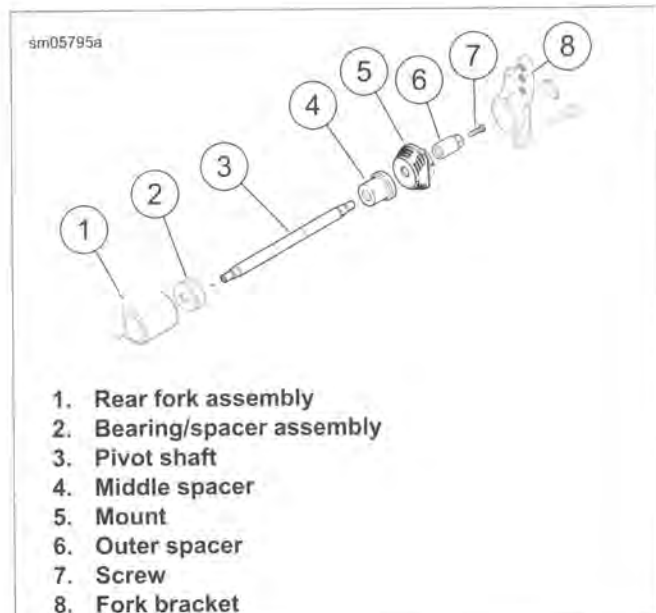

Figure 2-84. Pivot Shaft Components
1. See Figure 2-84. Remove screw (7).
2. Remove outer spacer (6), rubber mount (5) and middle spacer (4).
- See Figure 2-84. Slide middle spacer (4) onto left end of pivot shaft (3) until seated against shoulder.
- Install left rubber mount (5) with the flat side inboard.
- Install outer spacer (6).